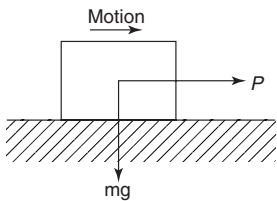

Figure 15.13
1. A mass of 40 kg rests on a flat horizontal surface as shown in Figure 15.13. If the coefficient of friction $\mu = 0.2$, determine the minimum value of a horizontal force P which will just cause it to move. [78.48 N]